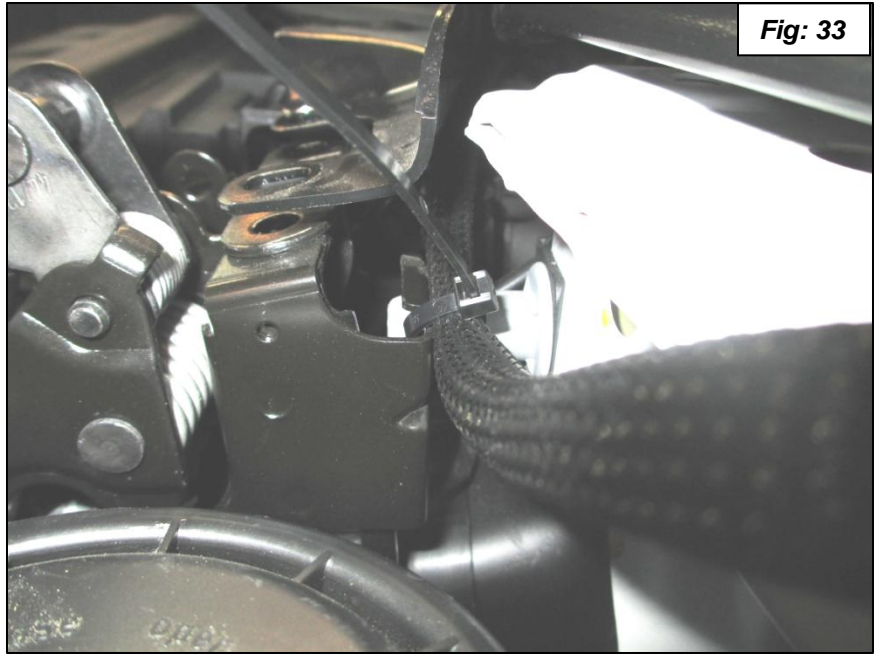

Fig: 33
33. Work your way back from the DinanTronics ECU with the wire harness securing it. Zip tie the harness to the car at the corner of the hood latch bracket to keep it out of the hood latch. See figure 33. There will be a little extra wire over the top of the head light, make sure you don't pinch it as you install the bolts back onto the radiator support and brace that you removed in step 27.